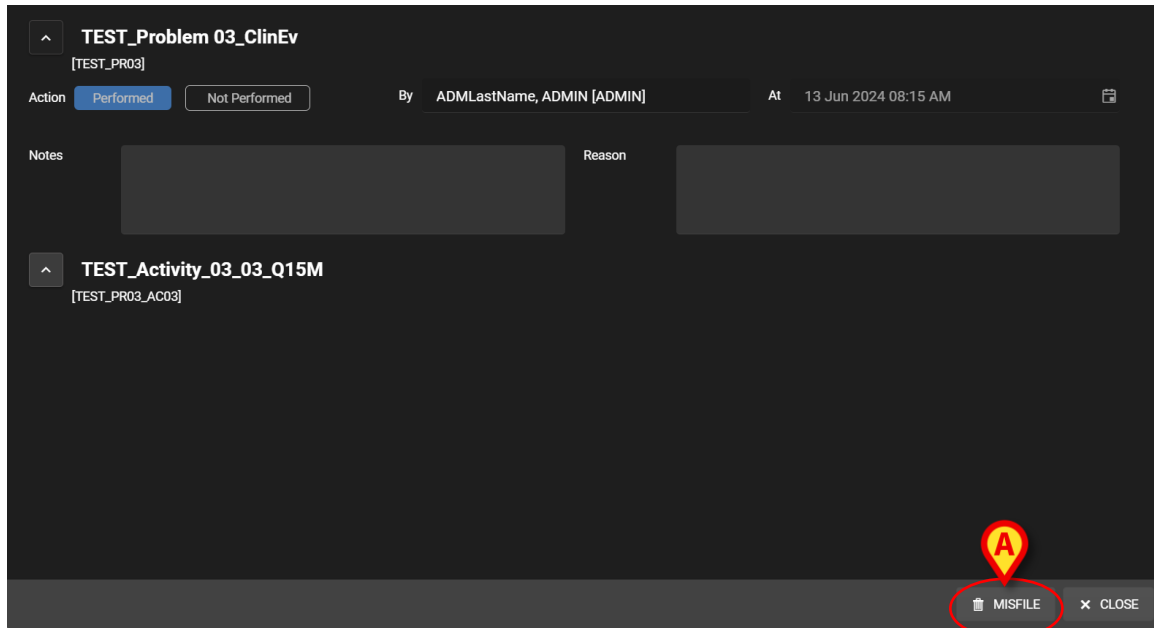

Fig 89
The activity details window opens (Fig 89)
- Click the **Misfile** button (Fig 89 A).